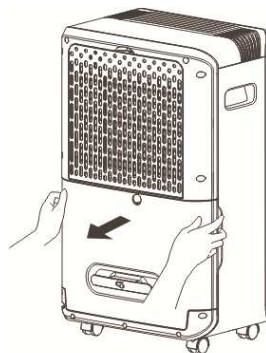

Fig. 1
1. Grasp the handle of the water tank and gently pull the water tank out to easily remove the water tank. Fig. 1
1. Remove the water tank from the back of the machine. Fig. 1